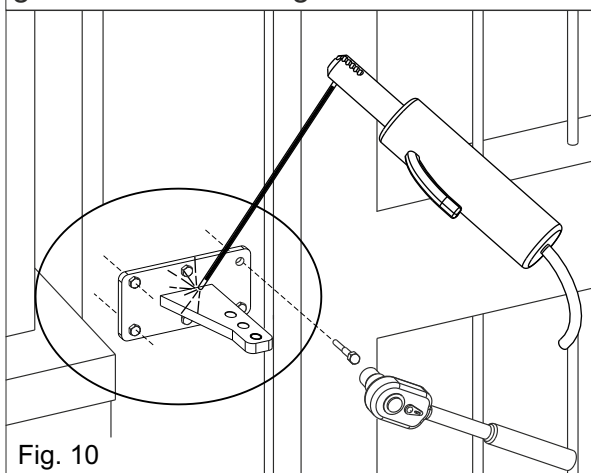

Fig. 10
- Place the bracket on the gate so that the operator is perfectly horizontal, then screw and weld to the gate as shown in Fig. 10